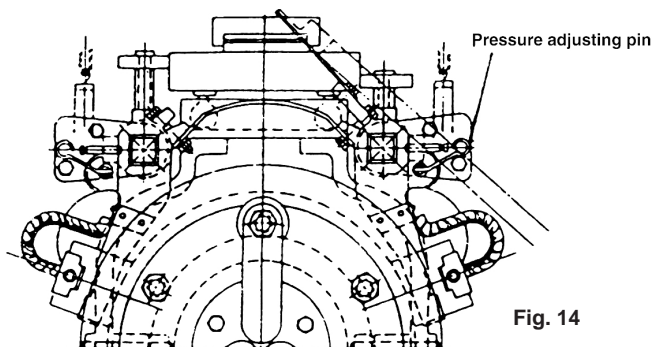

Fig. 14
- The brush pressure may be reduced after use, so it is necessary to re-adjust. For adjustment, please turn adjusting screw, pressure adjusting pin or pressure adjusting plate as shown in Fig. 14 to obtain the correct tension ( $=0.23 \times \text{brush cross sectional area in cm}^2$ )  $\pm 10\%$  kg.